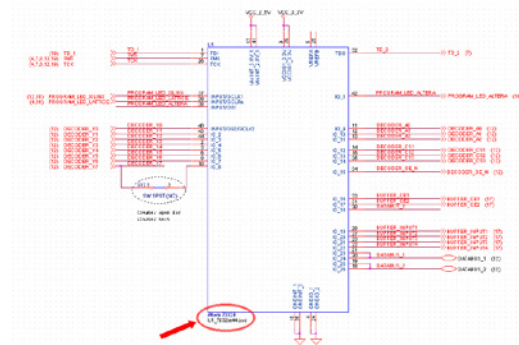

Figure 4: Example Schematic Symbol with BSDL File Name Visible
6. The values for the “BSDL File” name and “PCB Footprint” can be displayed on the schematic page by setting the “Visible” property for each value. An example schematic symbol with the BSDL file name displayed is shown in Figure 4